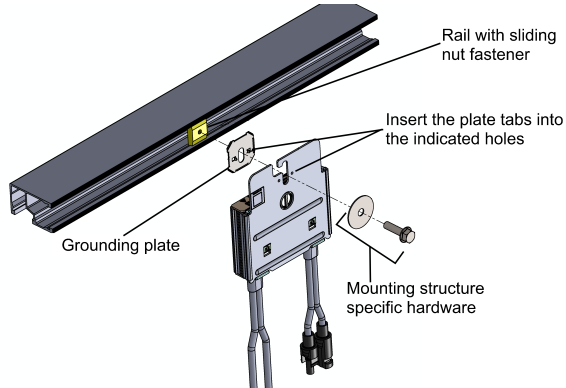

Figure 5: Power Optimizer installation and grounding using a grounding plate
- For mounting on rails with sliding nut fasteners:** If the star washer cannot be used, use the SolarEdge grounding plate (purchased separately) between the railing and the flat side of the mounting bracket. Use mounting specific hardware as needed. Apply a torque of 9.5 N*m / 7 lb*ft. See *Figure 5*.